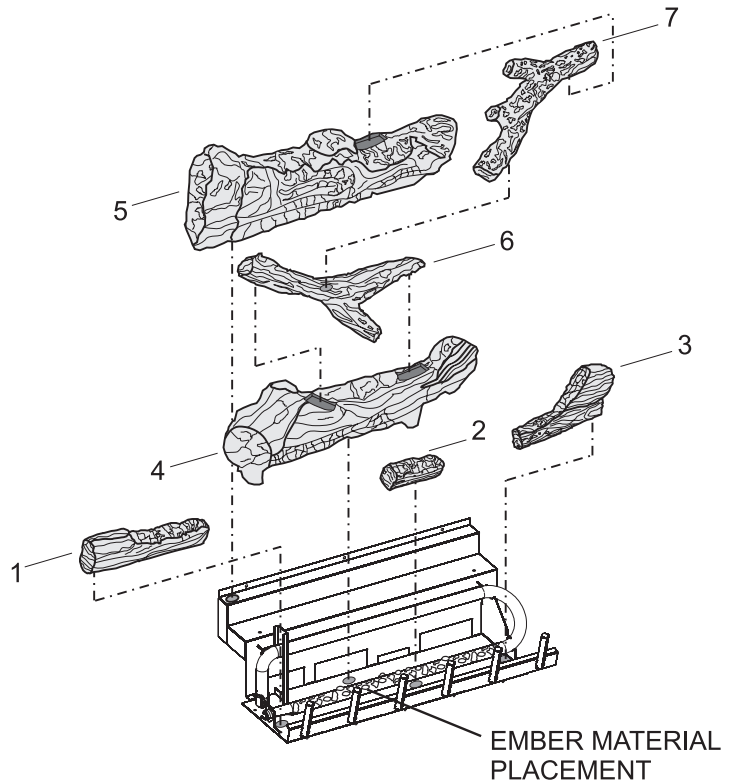

Figure 58
10. After all logs are positioned properly, apply glowing ember material to the front burner port area. To apply, carefully separate the ember material into small amounts no larger than "dime size" pieces. Fluffed up pieces one layer thick on top of the burner generally work best, and will provide the best ember glow. Do not place ember material more than one layer thick. No more than one small packet of ember material (part no. 15999) evenly placed on the burner, is recommended on DVD32 and DVD36 models. Using additional ember material will decrease the amount of ember glow effect. Extra ember material should be saved for future application as necessary. **See Figure 58.**
The positioning of logs is critical to safe and clean operation of this fireplace. Sooting and other problems may result if the logs are not properly and firmly positioned in the fireplace. Please refer to **Figure 57** and **Figure 58** and corresponding **WARNING** when completing following log placement steps.
11. After all logs are properly positioned, place small "dime" size pieces of Rockwool lightly across the front burner tube ports. Place the ember material (Rockwool pieces) side by side. Do not stack more than one layer of embers across the burner ports. **See Figure 58.**
Attention: Do not use **Figure 57** or **Figure 58** to order logs. Refer to parts lists and parts views on pages 60 to 63 to order logs and/or ember material for your appropriate fireplace model.